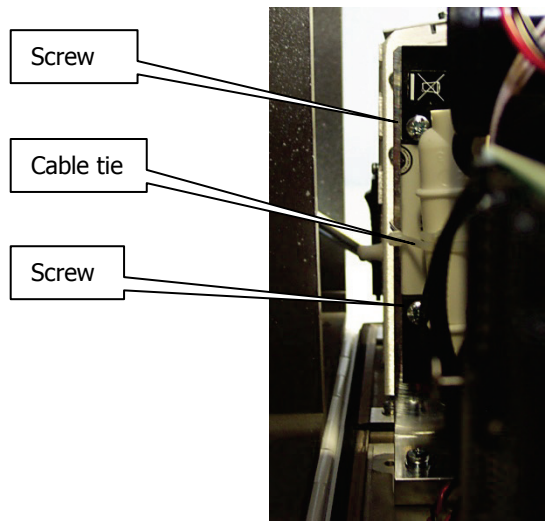

Figure 55 Laser power supply fixings (from left of instrument)
2. Snip, and remove, the cable tie surrounding the power supply, noting how it secures the laser cables (Figure 55).
12. Secure the laser power supply with the two securing screws (Figure 55).